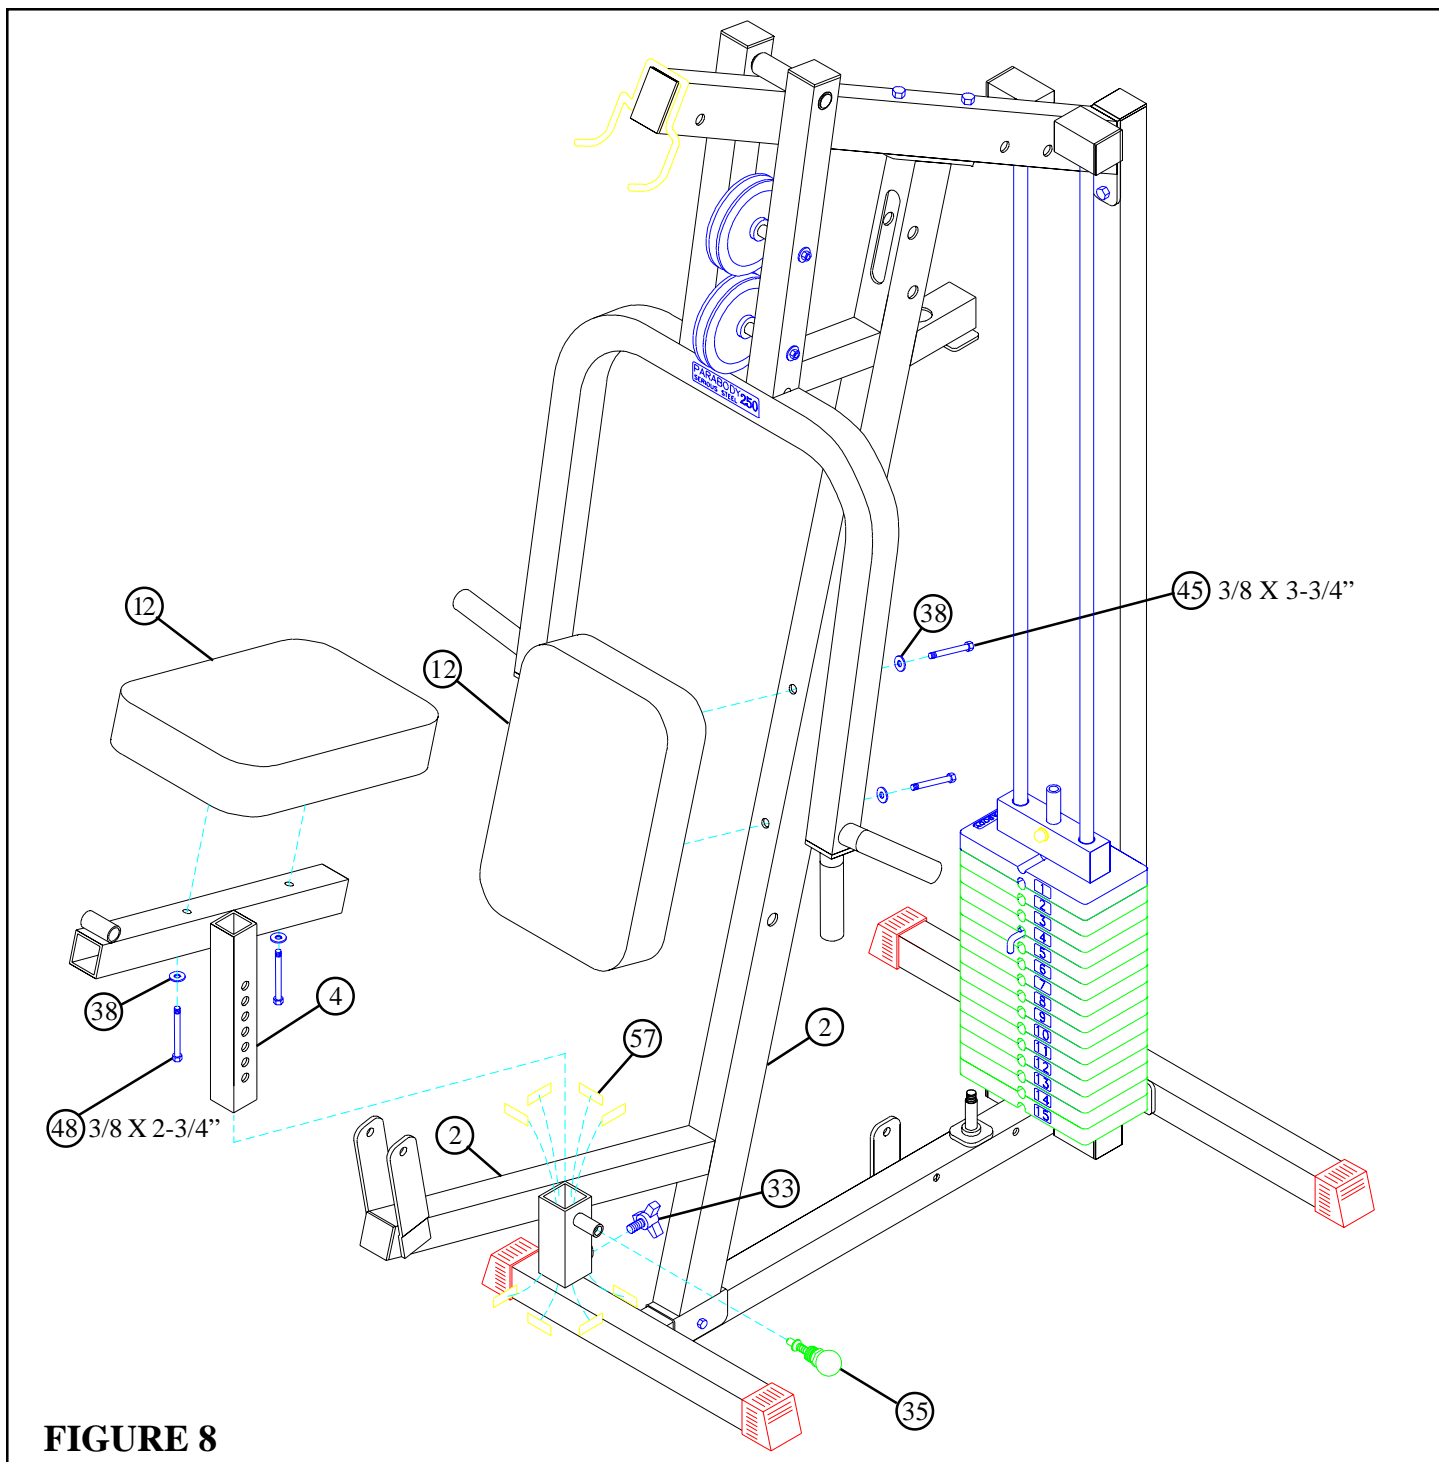

**FIGURE 7**
- Loosely assemble two 4-1/2" PULLEYS (18) to the PRESS ARM (3) using two 3/8 X 7-1/2" BOLTS (51), four 3/8" WASHERS (38), four 3/8 X 1" SPACERS (32), and two 3/8" LOW HEIGHT LOCK NUTS (43) as shown in FIGURE 7. Once both PULLEYS are installed, you may securely tighten these two connections.
- Securely tighten the two SET SCREWS (50) and insert two 2" SQ. END CAPS (56) into open ends of the PRESS ARM (3) as shown in FIGURE 7.